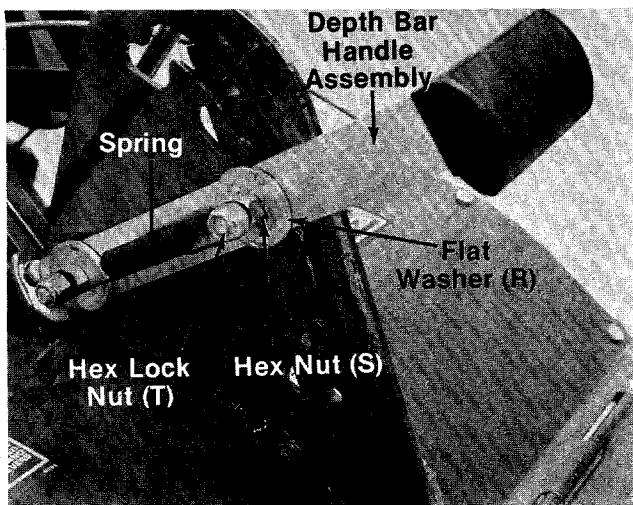

FIGURE 6.
6. Place hole in depth bar handle assembly over the spacer and hex bolt. Secure with flat washer (R) and hex nut (S), tightening securely, then backing off one turn. Handle must be able to pivot freely. See figure 6.
7. Place end of spring onto hex bolt. Thread hex lock nut (T) on the bolt until the two nuts are approximately 1/8" apart. See figure 6.